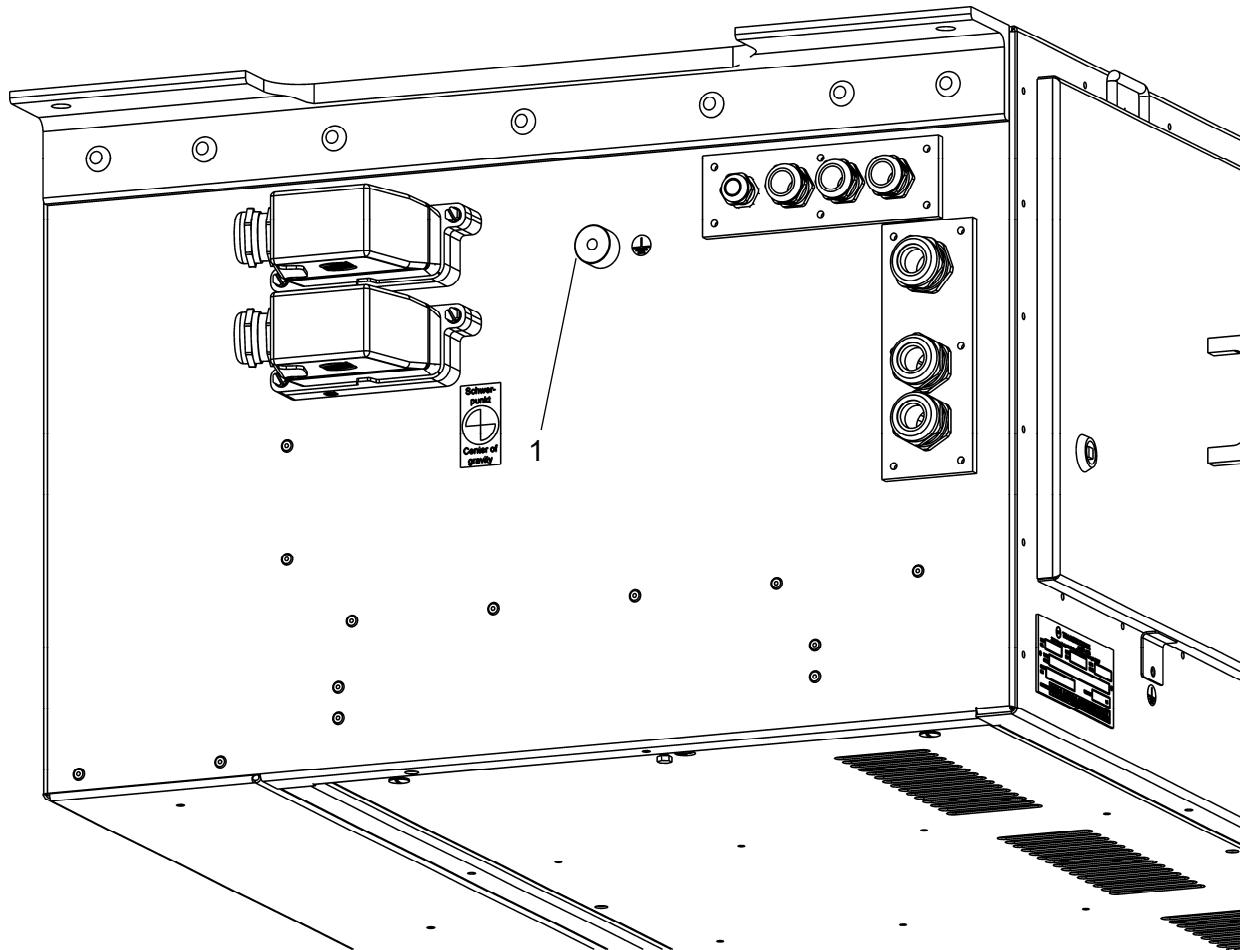

Figure 3-15: Ground Bolt 2
3. Check ground connection (metric bolt M10 x 20 mm) at secondary APS ground socket (1) for firm fit. Use torque wrench. See Figure 3-15.